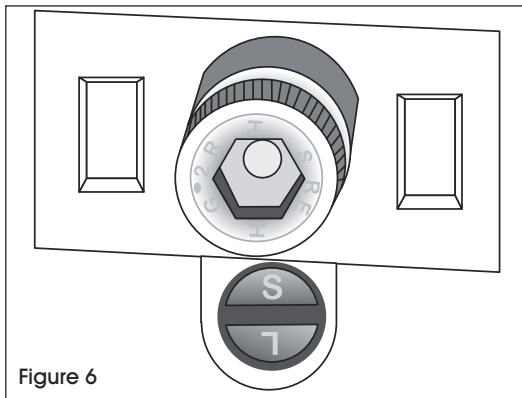

Figure 6
**NOTE:** If you are using 3/4" staples, set L up. (See Figure 6)
**NOTE:** If you are using 5/8" staples, set S up. (See Figure 6)